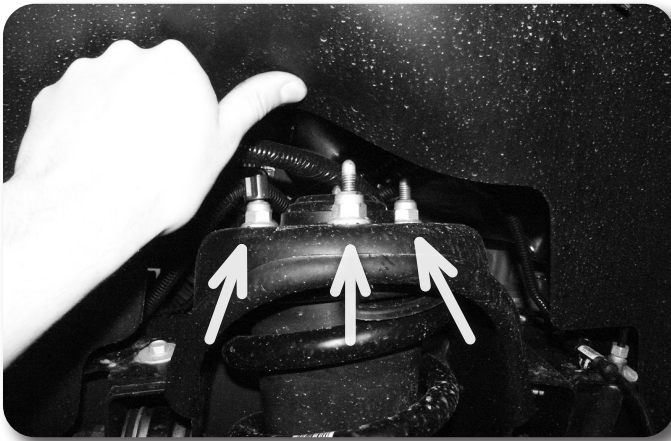

Figure 12
19. Remove the three upper strut mounting nuts **Fig. 12** and remove the strut from the vehicle. DO NOT remove the center strut rod nut, it is under extreme pressure. Save nuts.